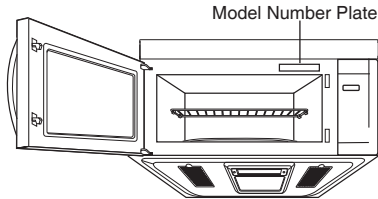

Figure 1
- Read the entire manual before you begin. The model number label is located on the oven front. See Figure 1. The mounting plate is located on the upper packing. See Figure 2.